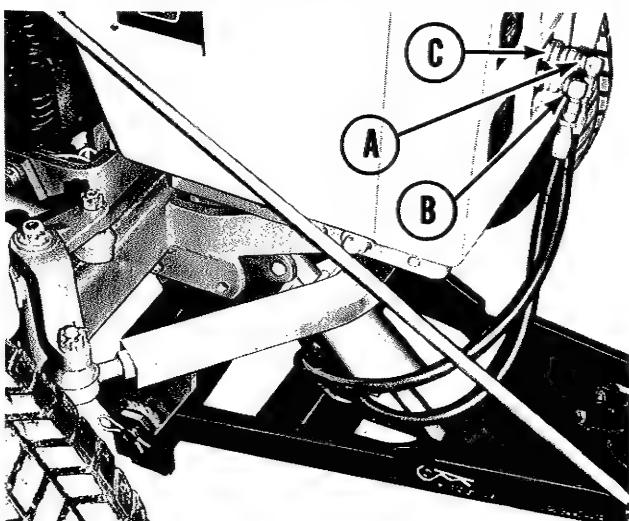

Figure 44. Hydraulic cylinder.
See figure 44. The hydraulic cylinder purchased as an accessory includes the hoses and quick-disconnect couplers. The Front Hydraulic Kit (optional - factory or field installed) is required to use the hydraulic cylinder for front mounted attachments. When connecting the hydraulic cylinder to the hydraulic lines, connect them as shown in figure 44 with the hose to the rod end of the cylinder connected at the coupling designated ROD END (A). The hose to the piston end of the cylinder should be connected to the coupling labeled PISTON END (B). When connecting or disconnecting the quick couplers, push back on the locking ring (C). When using the hydraulic cylinders only one cylinder should be used at a time. The cylinder not being used may be left in position, but the hydraulic couplers must be disconnected so only the one cylinder will move when the hydraulic lever is actuated. **NOTE: A HYDRAULIC CYLINDER DISCONNECTED UNDER PRESSURE (WHILE HOLDING AN ATTACH-**